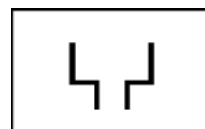

Fig.40
- 3- On the display will appear water drain message during process. (Fig.40)